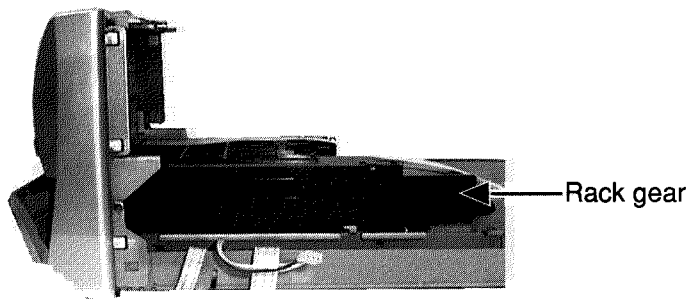

Fig.6
- 3.Push the Rack gear so that CD tray is open(Fig.6).